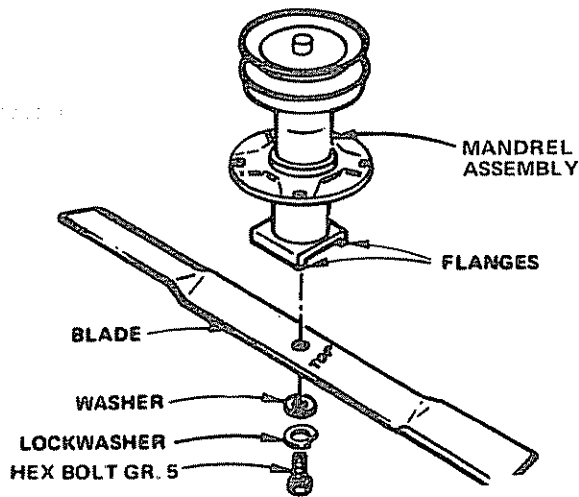

FIGURE 23
1. Remove Bolt, Lockwasher and Washer (Fig. 23) (turn counterclockwise ↺).